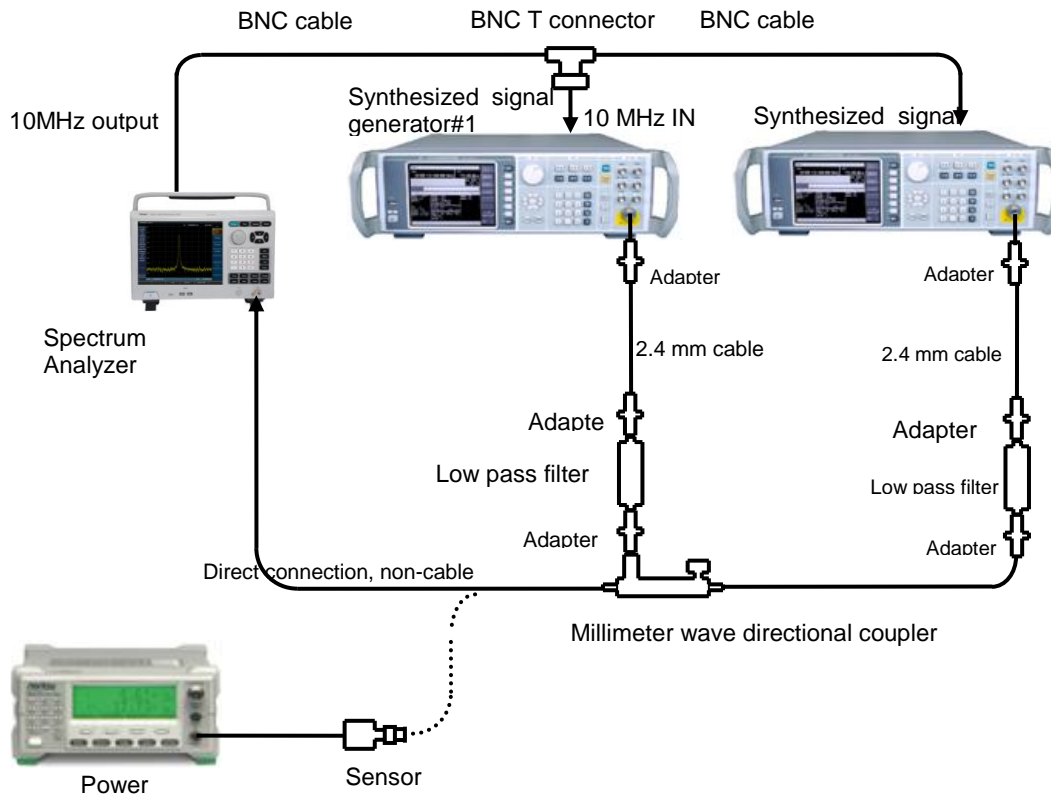

Fig 11-11 Third-Order Intermodulation Distortion Testing Setup (4 GHz to 44 GHz)
- 17) Connect the instrument as shown in Fig 11-11. Replace the RF directional coupler with millimeter wave directional coupler, and select the appropriate low pass filter and adapter according to the test frequency. Do not connect the directional coupler to the spectrum analyzer.
- 23) Connect the instrument as shown in Fig 11-11. Replace the RF directional coupler with millimeter wave directional coupler, and select the appropriate low pass filter and adapter according to the test frequency. Do not connect the directional coupler to the spectrum analyzer.